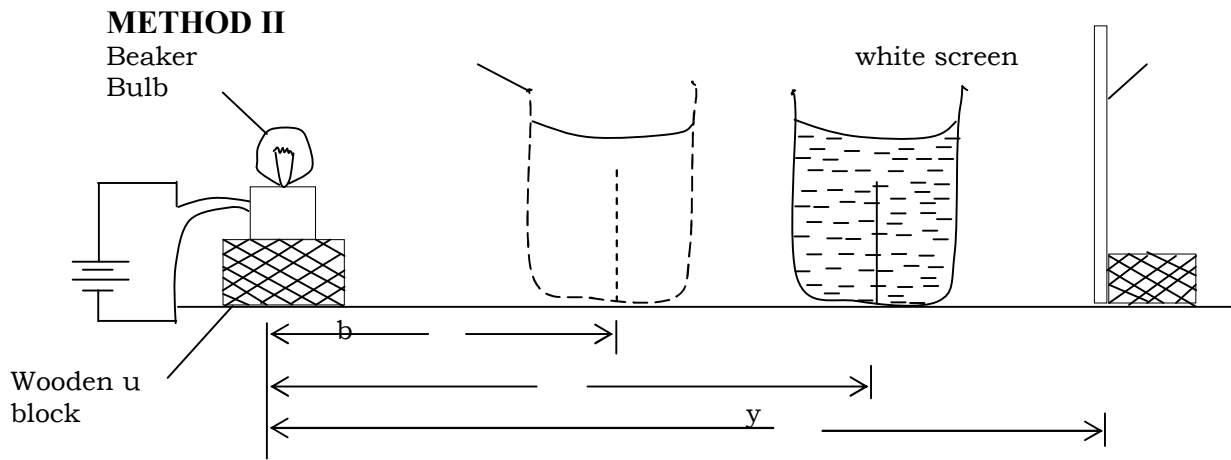

Fig 3
- Adjust the distance between the bulb and the screen to $y = 5dcm$ as shown in figure 3